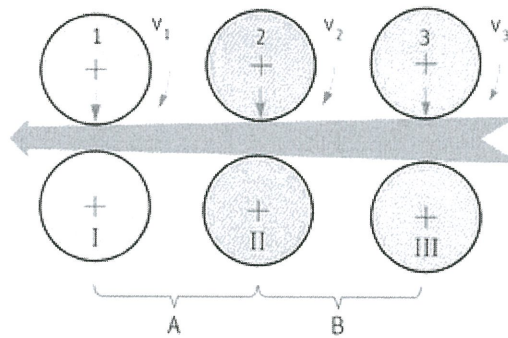
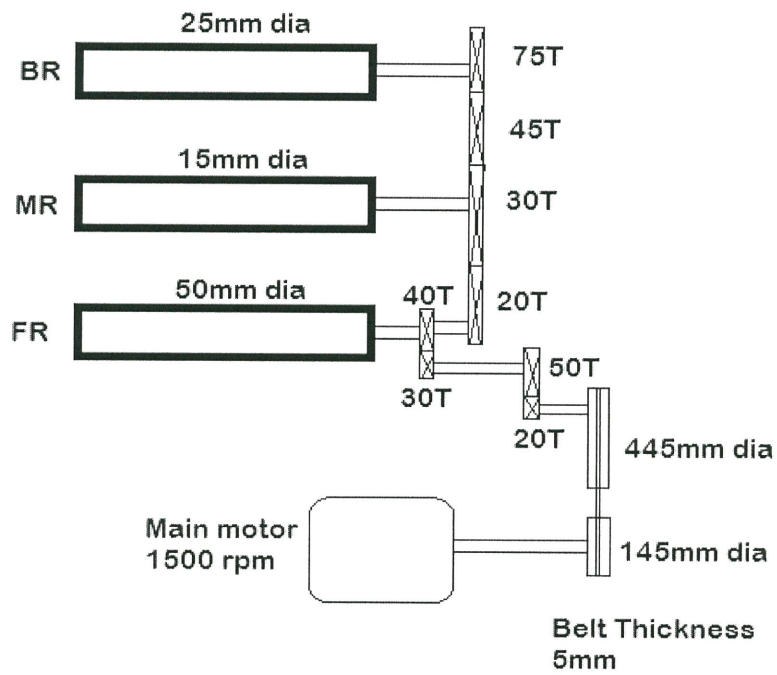

FIGURE Q3
FIGURE Q4
- (c) **Figure Q3** shows the 3-over-3 drafting arrangement. Given the $V_1 = 50\text{m/s}$, $V_2 = 30\text{m/s}$ and $V_3 = 20\text{m/s}$. Calculate:
- (b) Describe the function of traveller in ring spinning. List **THREE (3)** properties of material suitable for traveller. (5 marks)
- (c) **Figure Q4** shows gear arrangement for spinning process. Calculate:
- (i) Draft between Front Roller (FR) and Middle Roller (MR)
- (ii) Draft between Middle Roller (MR) and Back Roller (BR)